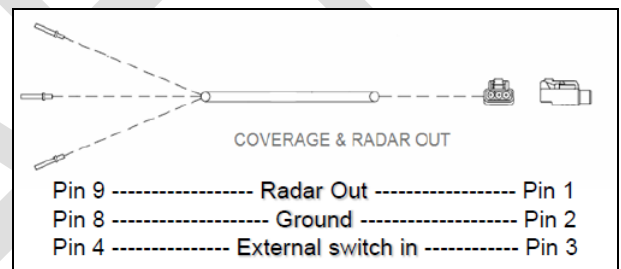

Figure 5.5
- To add a coverage switch to an EZ guide 250 then the relevant cables can be found by ordering the Part number **73321232**. The pin out for the cable received is shown in figure 5.5, also included is the cable that goes to the coverage switch. The external switch has to be sourced locally and is not available from CNH parts.